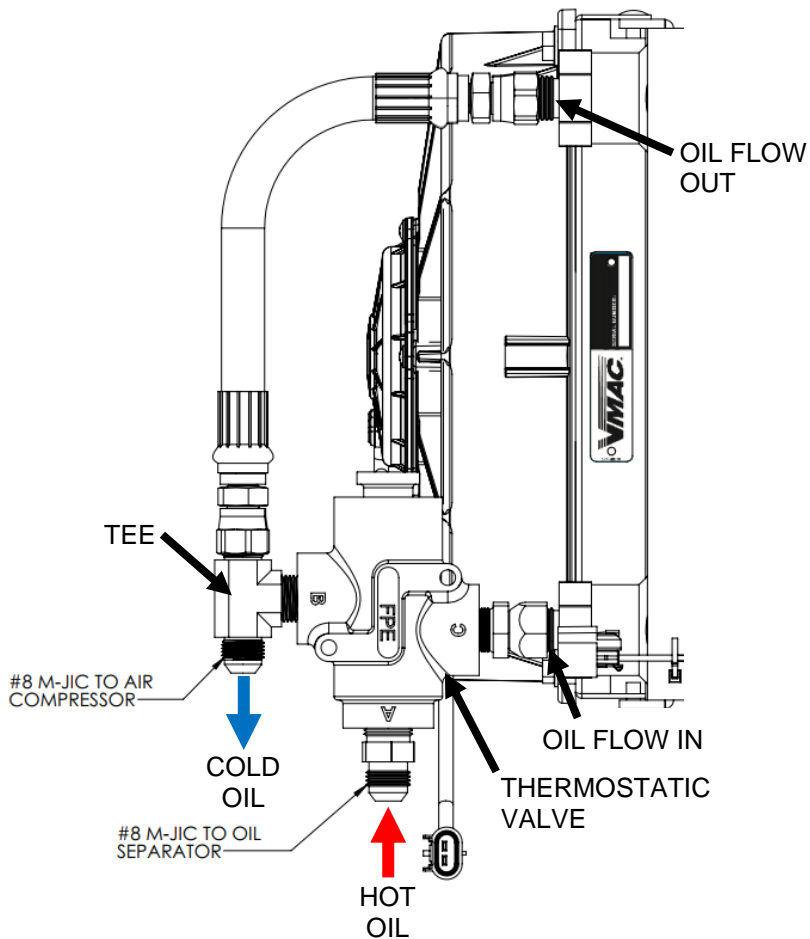
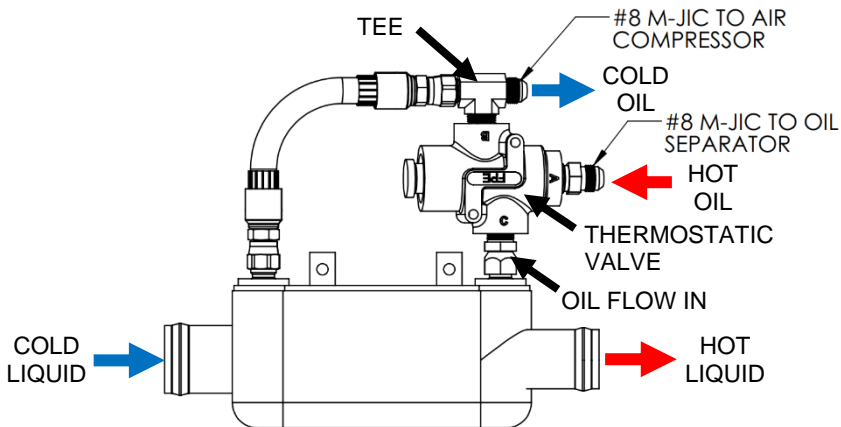

Figure 1 - Thermostatic Valve on Air to Oil Cooler
Figure 2 - Thermostatic Valve on Liquid to Oil Cooler
- Refer to Figure 1 and Figure 2 for reference of the following instructions. If using a liquid to oil cooler, see the warning above.